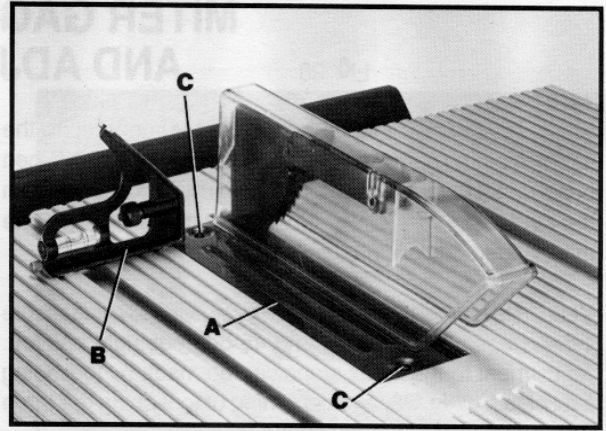

Fig. 35
1. The table insert (A) Fig. 35, should be adjusted so it is flush with the saw table surface. Place a straight edge or square (B) on the saw table extending over the insert, as shown. If an adjustment is necessary, tighten or loosen the two adjusting screws (C).